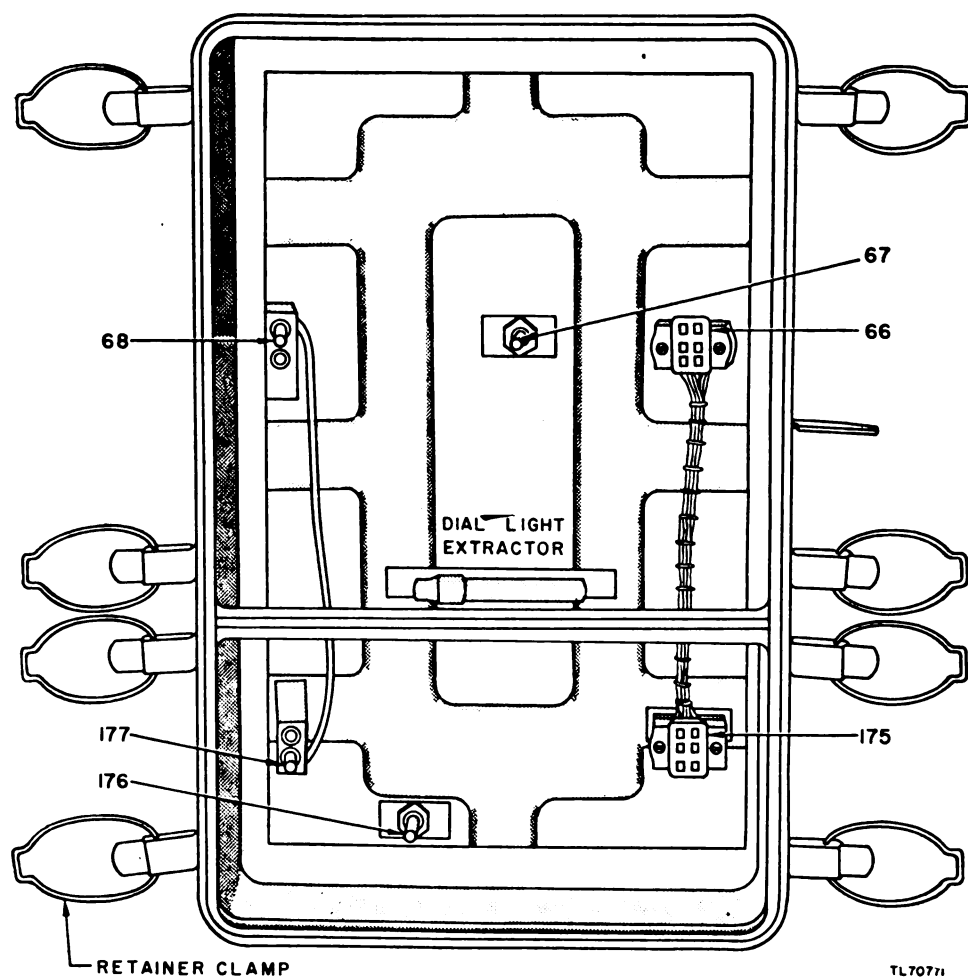

Figure 4. Case components of Radio Receiver and Transmitter BC-1306.
clamps on each side of case, and remove receiver from case by pulling forward. (See fig. 4.)
**d. DIAL LIGHT.** Use the dial light extractor furnished with the set (the extractor is clamped to the interior of the case back of the receiver unit, and is readily accessible when the receiver is out of the case). (See fig. 4.) Push the dial light extractor over the bulb, turn bulb counter-clockwise and pull it out of socket.